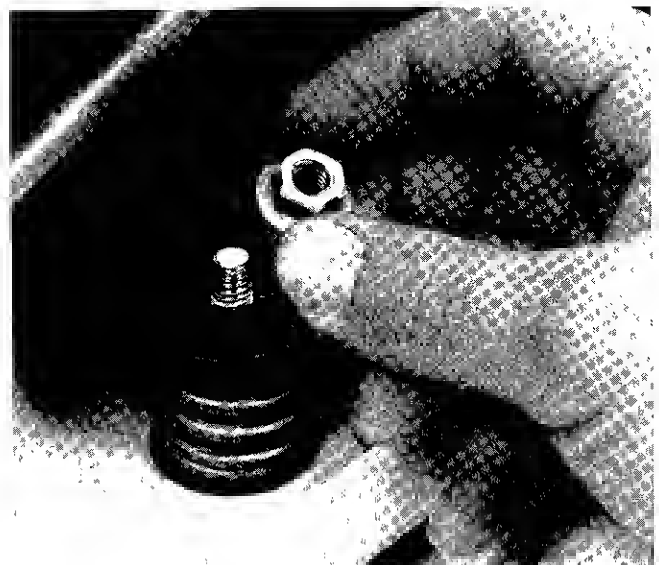

**Fig 21 — Removing Compressor Terminal Cover**
- a Remove compressor terminal cover. See Fig. 21